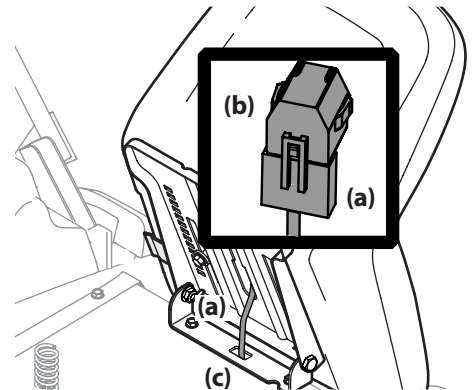

Figure 2-11
- If necessary, securely connect the seat switch wiring harness (a) to the seat switch (b) as shown in Figure 2-11. Be sure to push the excess wire from the wire harness into the seat box hole (c) before continuing.